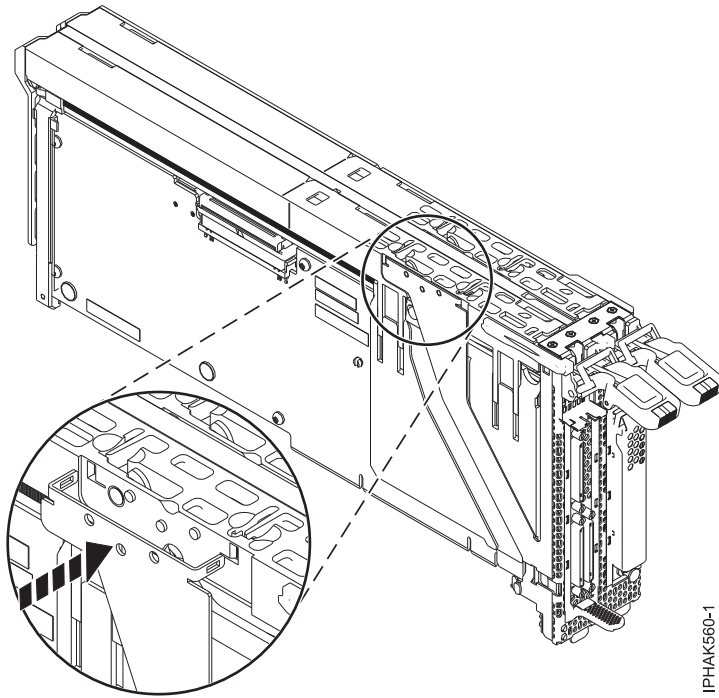

Figure 61. Attaching the face plate
8. Press the outer arms of the face plate assembly into place. See Figure 61 on page 77.